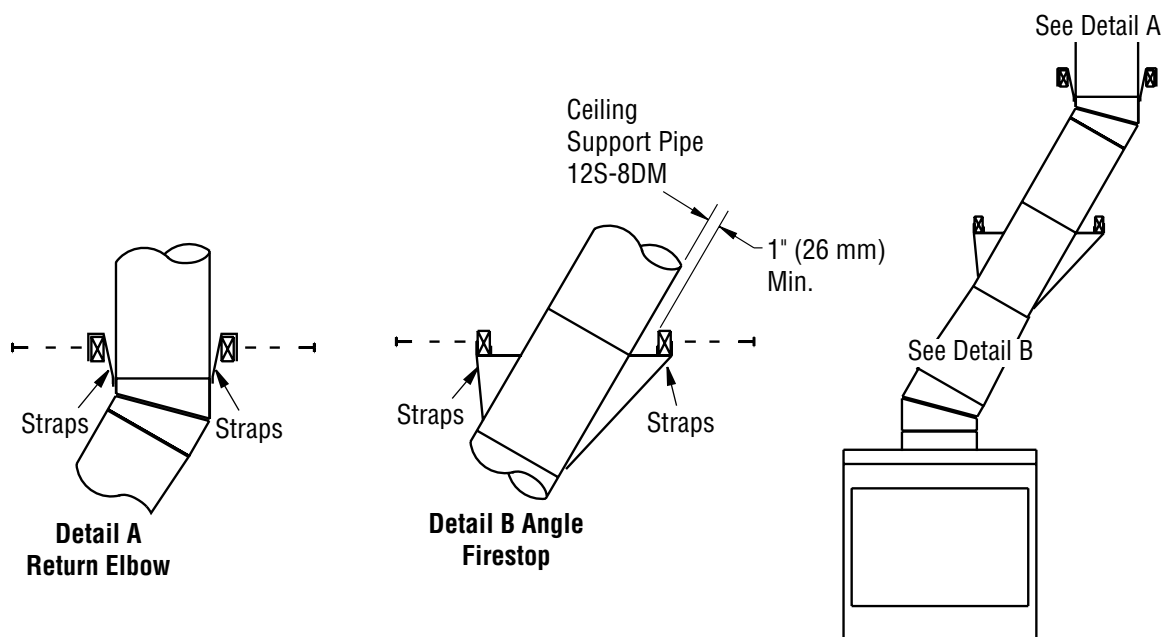

Figure 10 - Ceiling Support Pipe 12S-8DM
2. Chimney weight above offset rests on return elbow. Straps must be securely nailed to rafters or joists (*see Figure 10, details A and B, Page 9*).